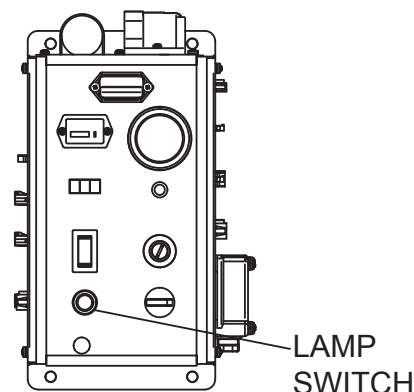

Figure 21. Turning on the Lamps
1. Press the lamp switch on the control panel to turn on all the lamps (Figure 21).